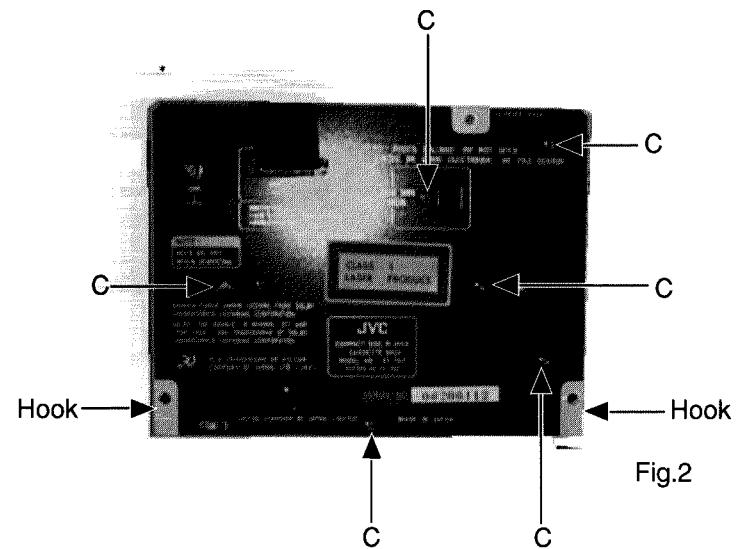

Fig.2
1. Remove 6 screws(C) fastening rear panel (Fig.2).